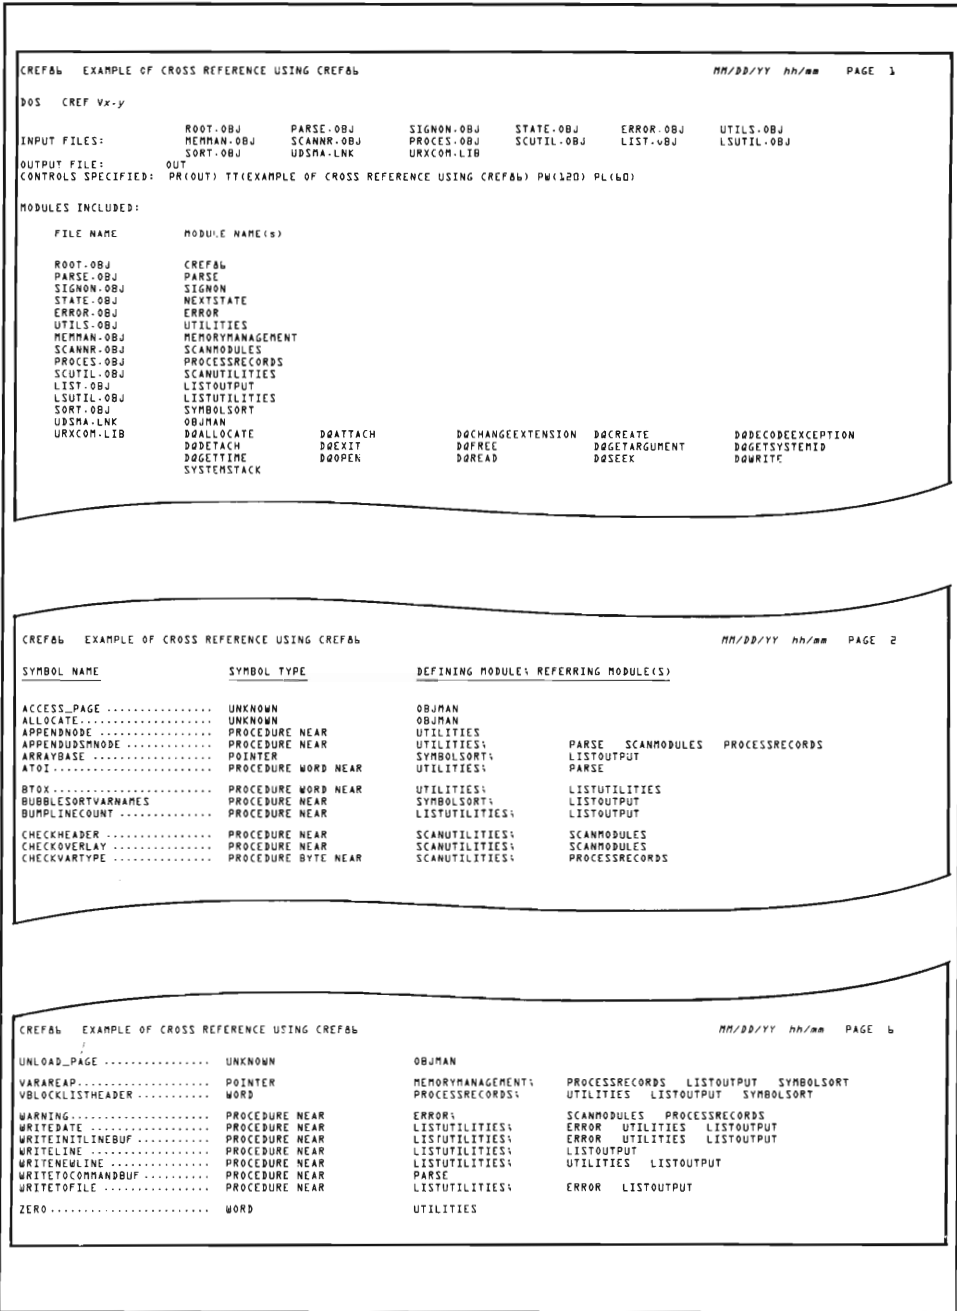

Figure 7-1. CREF86 Cross-Reference Listing
Figure 7-1 illustrates a CREF86 cross-reference listing for an input list of 15 files, one of which contains several modules. The output print file pathname OUT and a title for the listing were specified in the controls. Although PAGEWIDTH(PW) and PAGELength (PL) specifications were also noted in the controls, the numbers specified are the same as those provided by default.